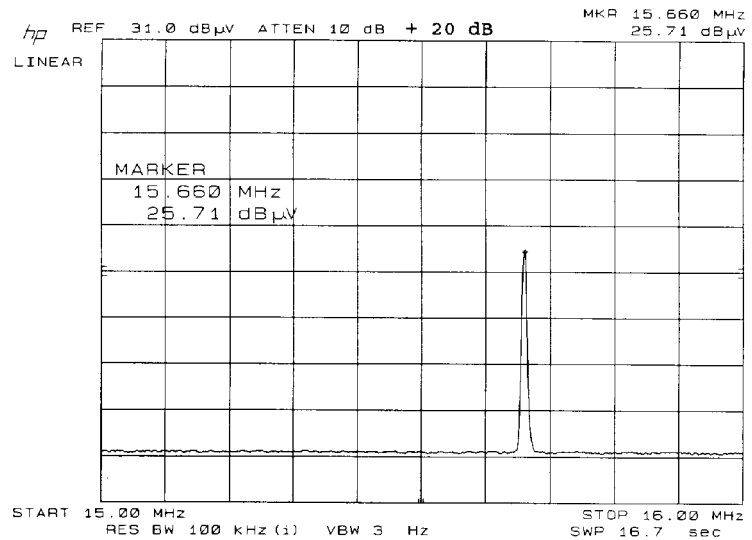

Figure 4-14. Average Measurement
15. Press **PEAK SEARCH** on the spectrum analyzer and read the marker amplitude on the display. Refer to Figure 4-14.